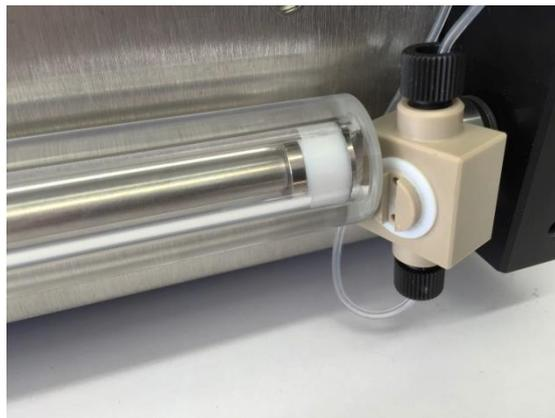

Figure 13 - Transfer port removal (right hand piston shown)
- 7.2.6 Unscrew the cylinder adjusting screw fully and move the transfer port out of the way as shown in Figure 13.